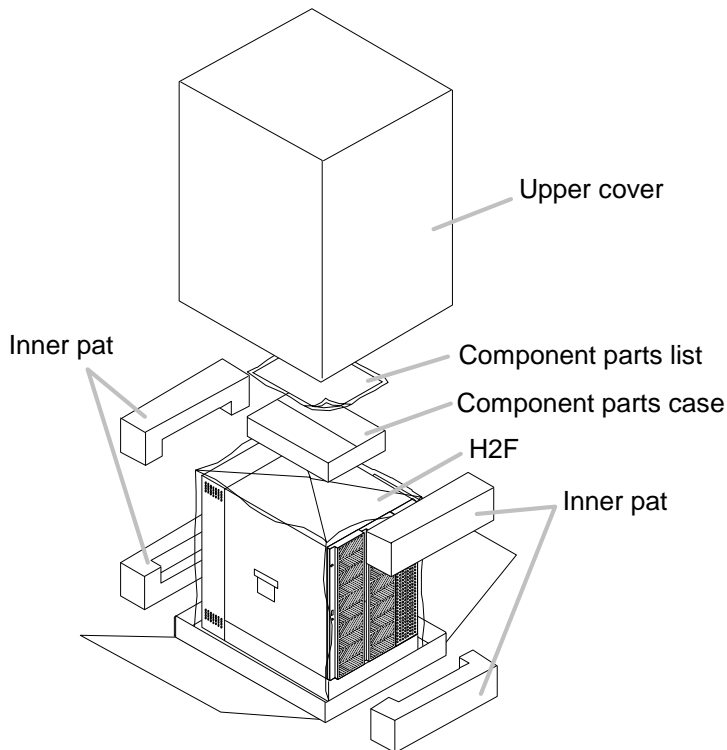

Figure 4.18 Packed Status of the H2F (1)
1. Cut the polyester band and remove it. (see figure 4.18)